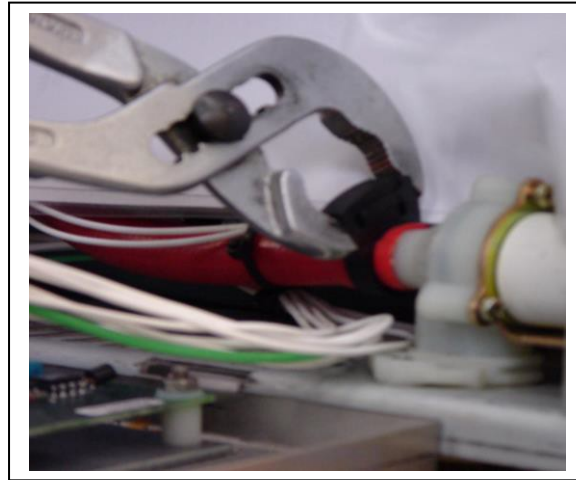

Fig. 5
- Place the hose loosely beside the connection of the water valve and cut the hose to size. Use a hose clamp to secure the hose to the water valve. See fig. 5.